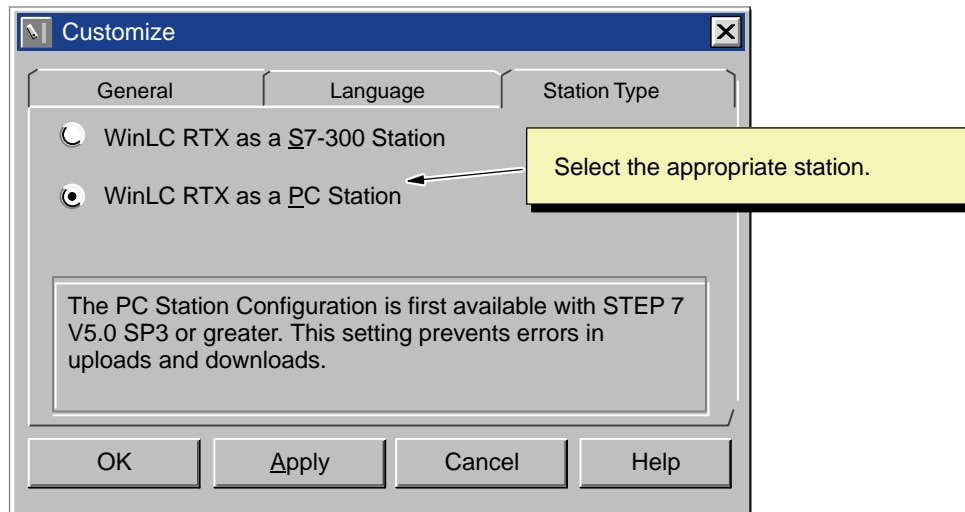

Figure 4-4 Setting the Station Type
3. As shown in Figure 4-4, select the appropriate station type.